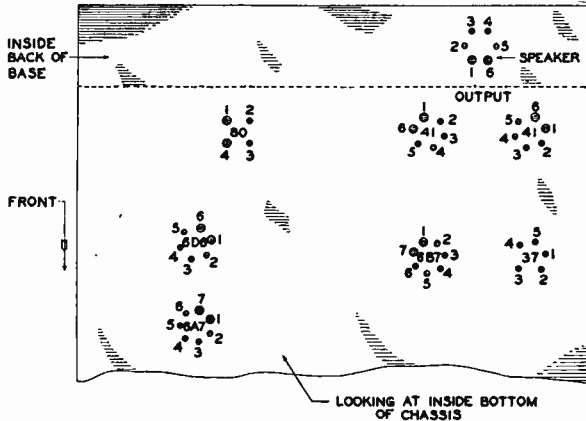
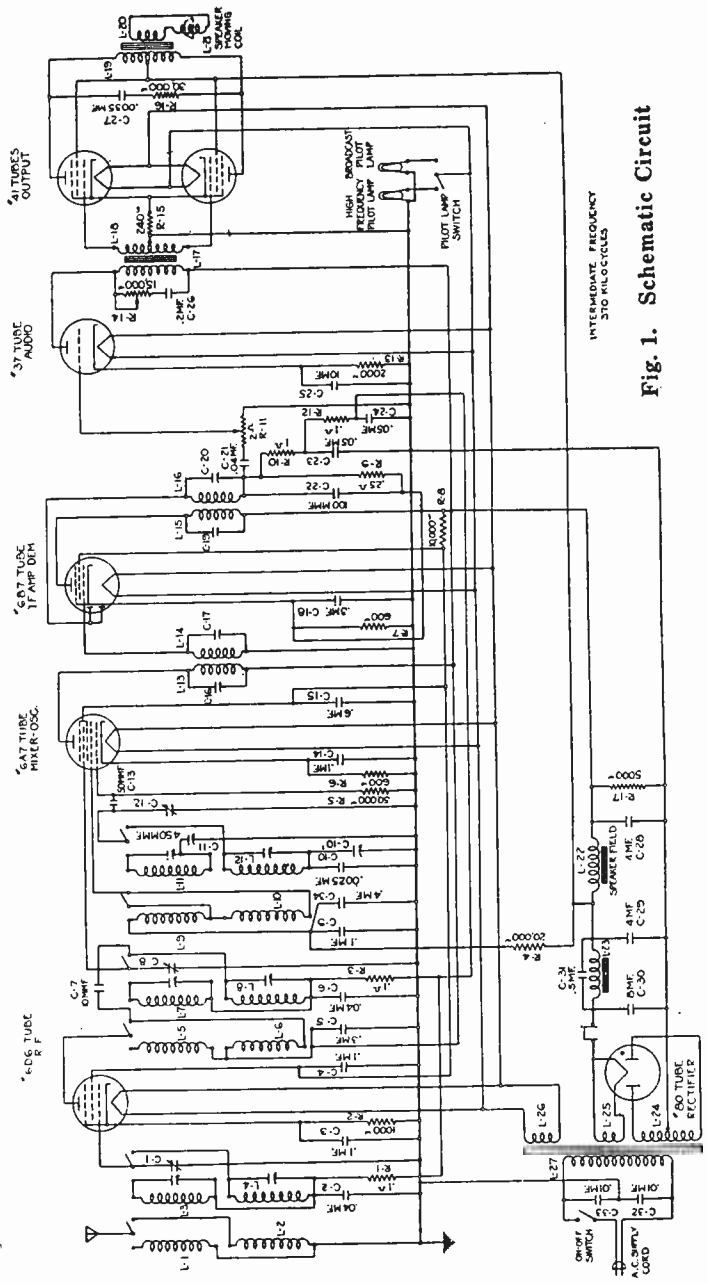

Fig. 2. Terminal Layout for Voltage Measurement Chart.
Fig. 1. Schematic Circuit
If you have an 0-250 volt or higher range D.C. voltmeter and an 0-5 ampere or higher range D.C. ammeter then you can make satisfactory adjustments. However, I have always been able to improve my adjustments on the above with the additional use of an A.C. voltmeter or a cathode-ray oscillograph to give added life to the usefulness of the vibrator, especially if the vibrator is of the full-wave self-rectifying type as shown in Fig. 1.
current obtained from a battery. This interrupted direct current is allowed to flow in the primary winding of a step-up transformer similar to that shown by contacts 1 and 2 in Figures 1, 2, and 3. This results in alternating voltage being produced in the secondary of the transformer, as across terminals 8 and 9 and across terminals 9 and 12 in the diagrams. This alternating voltage then is rectified by means of a rectifier tube or by additional contacts placed on the vibrating spring of the vibrator.
Figure 1 shows the fundamental circuit of the type which is used with a vibrator that rectifies the alternating voltage by means of the extra contacts 6 and 7, and 6 and 10. A clear understanding of the operation of this circuit is required to make proper adjustments and for this purpose only half of the circuit has been shown in Fig. 2 so the important circuits can be traced without confusion.
Refer to Fig. 2. Here you will notice that a storage battery is represented with the positive terminal of the battery connected to the chassis of the automobile, as indicated by the symbol for the ground connection. The negative ter-
terminal of this battery is not grounded and for this reason it is called the "hot wire." This hot wire connects to one terminal of a switch S. The other terminal of the switch connects to a binding post H which is provided for the purpose of applying the proper polarity to the primary of the transformer across terminals 4 and 3, depending on whether the negative or the positive terminal of the battery is the "hot wire." You will notice in Fig. 3 that the positive terminal of the battery is the hot wire. However, in Figures 2 and 3 terminals 3 and 4 will have the same polarity across them during the time that the switch S is closed.
Returning to Fig. 2 you will notice that the spring of the vibrator normally holds the contacts 1 and 2, as well as 6 and 7 in the open position. However, current from the battery can flow through the electro-magnet M when the switch S is closed. The amount of current flowing through the primary and through the electro-magnet M is in the neighborhood of 100 milliamperes when contacts 1 and 2 are open. This current attracts the spring of the vibrator, closing contacts 1 and 2 and also closing contacts 6 and 7. The current in the primary wind-
ing then increases to approximately 3 amperes in the usual type of transformer that is normally loaded. The closing of contacts 6 and 7 should take place at the same instant as that when contacts 1 and 2 are closed. This allows the voltage across terminals 8 and 9 to be applied across the load at B+ and B-. The condensers C₁ and C₂ shown in Fig. 1 then become charged, continuing to supply power after contacts 6 and 7 are opened.
In Fig. 2 it can be readily seen that the closing of contacts 1 and 2 will short-circuit the magnet M. Current then ceases to flow in this magnet with the result that the tension in the vibrator spring opens the contacts. This reduces the current in the primary of the transformer and also results in reversing the polarity of the voltage which is induced across terminals 8 and 9. However, contacts 6 and 7 now are also open and this prevents current of opposite polarity from flowing through the load. In this way rectification is accomplished, resulting in the voltage across the load always being of one polarity.
We can now turn our attention to Fig. 1 and note that the circuit of Fig. 2 can be followed there in exactly the same manner. The tension in the spring now carries the contacts 1 and 6 past their normal positions so that contacts 1 and 13, and 6 and 10 are closed momentarily.
When all contacts are perfectly flat, regulate the spacing between contacts until *all are open* with a clearance between .003 and .006 inch. A page of your N. R. I. text book has a thickness of approximately .004 inch so if you can insert this between the contacts you will have a good initial adjustment. Final adjustment should be made while the vibrator is in use with an 0-300 D.C. voltmeter connected across the 5,000 ohm load shown in Fig. 1, while an 0-5 ampere D.C. meter is connected in series with terminals 4 and H. You should obtain a voltage of approximately 180 to 200 volts while the ammeter registers the least current, or near 3 amperes. (Manufacturers specifications should be used where available.)
The oscillograph also can be connected across any pair of contact terminals of the vibrator shown in Fig. 1. Under this condition a vibrator with contacts well adjusted will show a pattern as in Fig. 7. Poorly adjusted contacts will result in a pattern as shown in Fig. 8.
These voltage readings are obtained by measuring between the various tube socket contacts and the bases with the tubes and speaker plug in place. The set is therefore in operation when the measurements are made. Fig. 2 shows the terminal layout of the sockets with the proper terminal numbers. The terminals of each socket are numbered, starting with one heater or filament pin and proceeding around the pin circle clockwise to the other heater or filament pin. This is done looking at the bottom of the socket. Tune Receiver to 1500 k. c.
The similarity of these two formulas (1) and (2) makes chart Figure 1 suitable for the solution of either one of them permitting the solution of mathematical problems without mental effort.
Now suppose there were three resistances in parallel of 100, 150, and 90 ohms. From the above paragraph and chart Figure 1 we know the resultant resistance of the 100 and 150 ohm resistance is 60 ohms, therefore, to find the resultant resistance of these three resistances, we draw a straight line between 60 on scale C and 90 on scale A, the resultant resistance being 36 ohms on scale B.
(Figure 1)